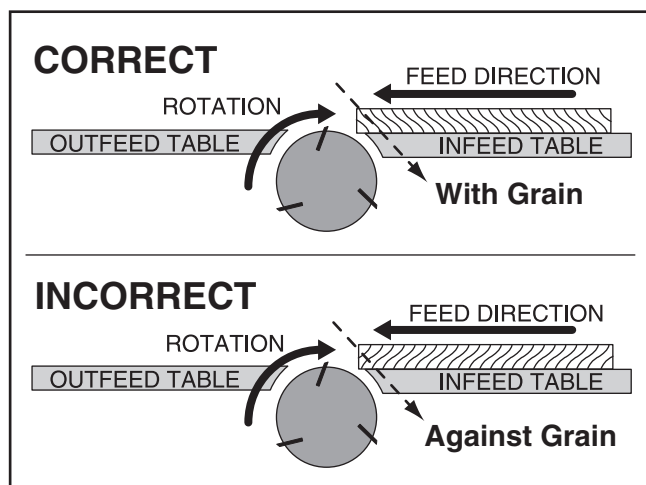

Figure 34. Proper grain alignment with the cutterhead.
- **Jointing and surface planing with the grain is safer for the operator and produces a better finish.** Cutting against the grain increases the likelihood of kickback and workpiece tear-out. **DO NOT** cut against the grain! Cutting with the grain is feeding the stock across the cutterhead so the grain points down and toward you, as viewed from the edge of the stock (see **Figure 34**).